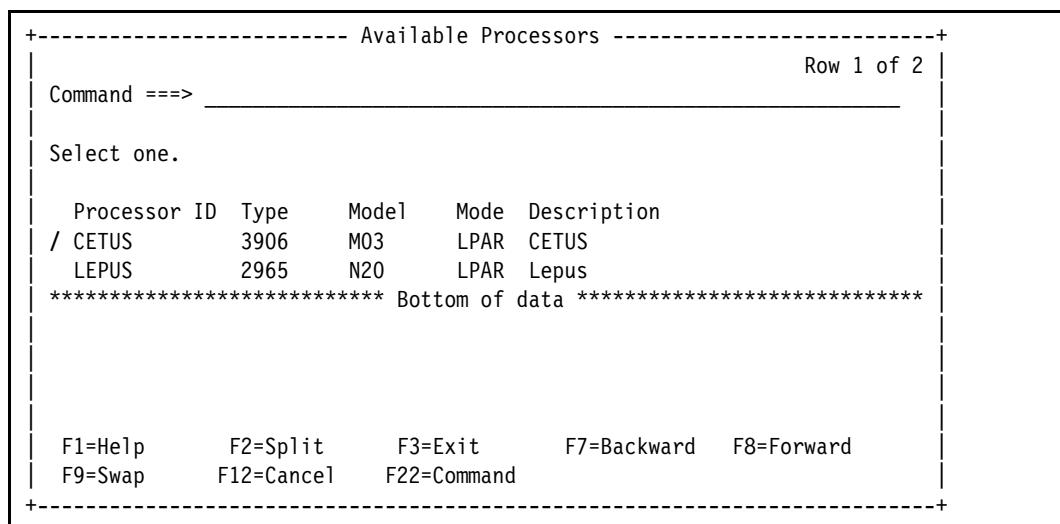

Figure 4-3 Available Processors: Selecting a processor for IOCP file
2. HCD displays the list of available processors (Figure 4-3). Select the CETUS processor by entering a forward slash (/) next to it and pressing **Enter**.